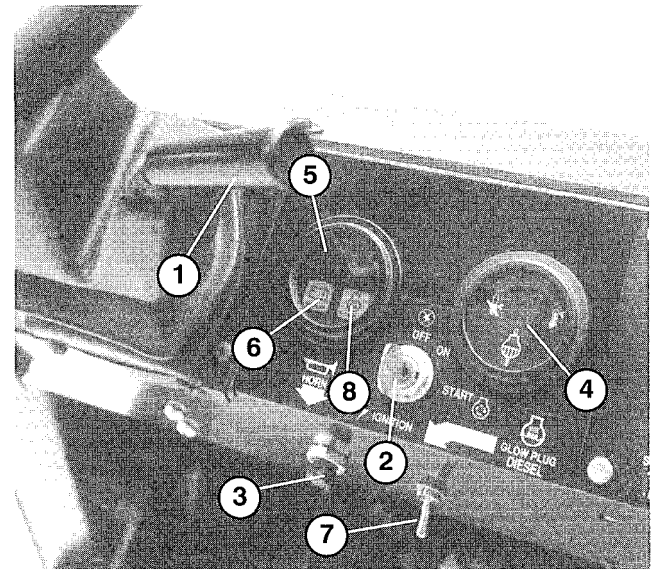

Figure 22
Tilt Steering Lever (Fig. 22) – Lever on right side of console allows steering wheel to be adjusted for operator comfort.
Coolant Temperature Gauge (Fig. 22) – Registers coolant temperature in engine. Operates only when ignition switch is in On position.
Horn Button (Fig. 22) – Pressing button activates horn.
Engine Low Oil Pressure Light (Fig. 22) – Light glows if engine oil pressure drops below a safe level while engine is running. If light flickers or remains ON, stop vehicle, turn off engine and check oil level. If oil level was low, but adding oil does not cause light to go out when engine is restarted, turn engine off immediately and contact your local TORO distributor for assistance.
Glow Plug Switch and Indicator (Fig. 22) — Use to preheat engine cylinders prior to cold engine starting procedures — cylinders are preheated automatically during warm engine start operation. For cold starting, push switch lever upward and hold while watching indicator. Indicator will glow orange when the glow plugs are activated. Length of time necessary to preheat cylinders should be determined by atmospheric temperature; refer to Starting /Stopping Engine.
Ignition Switch (Fig. 22) — The ignition switch, used to start and stop the engine, has three positions: OFF, ON / Preheat and START. Rotate key clockwise — START position — to engage starter motor. Release key when engine starts. The key will move automatically to the ON position. To shut engine off, rotate key counterclockwise to OFF position.
Charge Indicator (Fig. 22) — Illuminates when battery is being discharged. If light illuminates during operation, stop vehicle, turn Off engine and check for possible causes, such as alternator belt.
5. When temperature is below 15°C (60°F), push glow plug switch upward to ON position (Fig. 22) and hold for suggested interval.